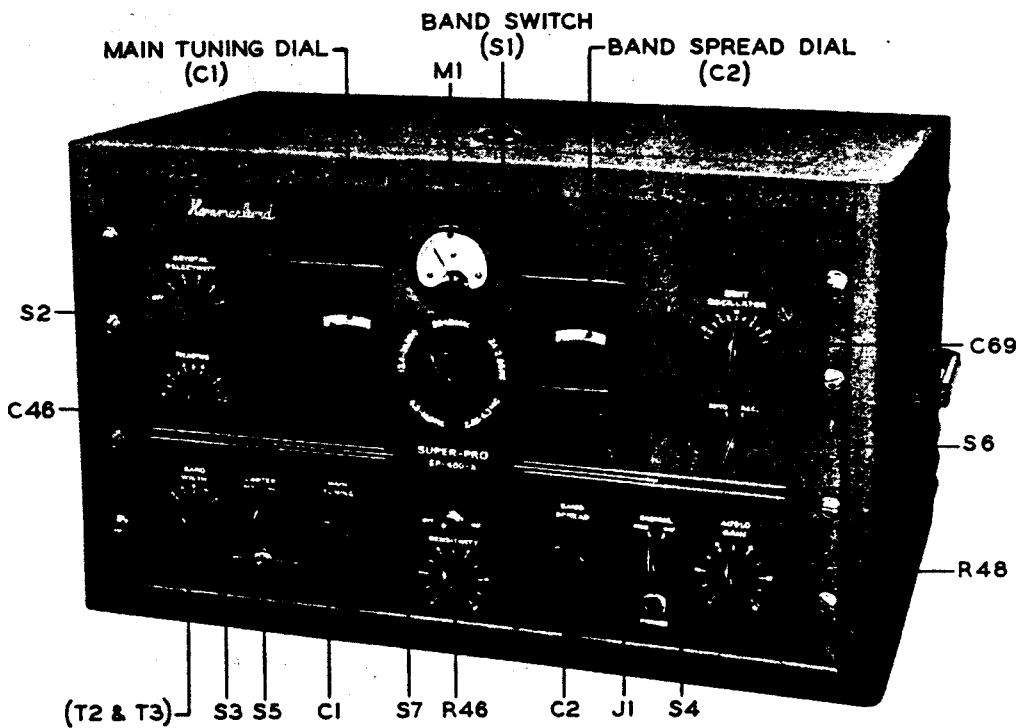
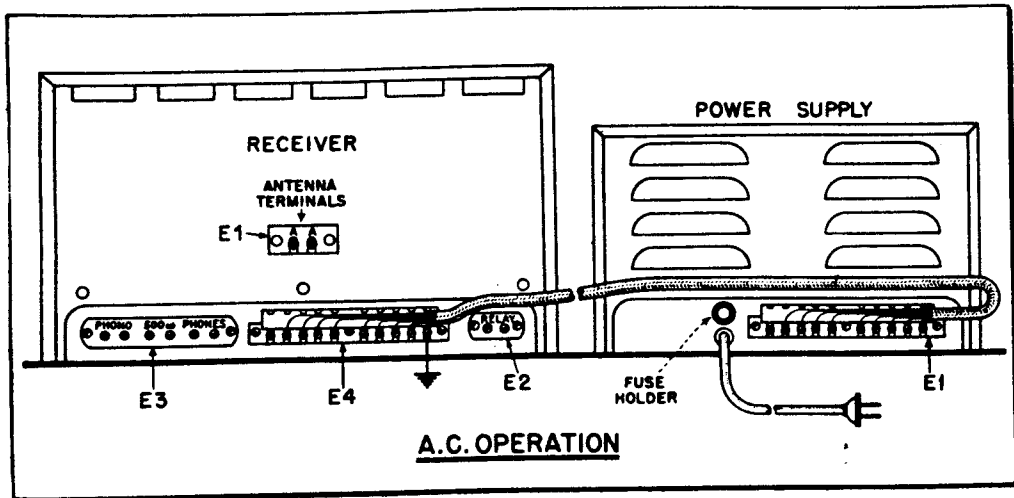

FIG. 2—Lay-out of controls referred to in text.
FIG. 3—Connections for power cable—A.C. operation.
panel (FIG. 2). Select the desired band by turning the BAND SWITCH knob right or left to the band indicated.
a. *Rating*—The total power output is approximately 8 watts. The total harmonic distortion of the output stage is less than 10% at this output and is, of course, less at lower levels. The Receiver has two output circuits with marked terminals along the rear of the chassis (FIG. 3).
(1) Remove the sheet-metal covers from terminal strip (E4, FIG. 3) on rear of Receiver and from terminal strip (E1, FIG. 3) on Power Supply. See that all ten screws on each strip are unscrewed at least three turns. Then attach one end of the connector cable to each terminal strip *exactly* as shown in FIG. 3 and tighten all screws securely. Make certain that each slotted spade lug on the cable strips makes contact with its respective screw terminal *only*, since a lug jammed between *two* screws could cause considerable trouble. Immediately
Connect a single-wire lead-in to the end of the antenna nearest the Receiver and try to have the lead-in wire leave the antenna approximately at right angles. Connect the lead-in to one of the "A" terminals (on terminal strip E1, FIG. 3) at the rear of the Receiver. Connect the other "A" terminal to a good ground, preferably not to the Receiver chassis. Run this ground lead to a water pipe or to a metal rod driven into the ground deep enough to reach moist earth. Keep the length of the ground lead as short as possible. Make the best possible electrical connections between the antenna and its lead-in and between the ground lead and "ground."
d. *Chassis Ground:* It is not usually necessary to ground the Receiver chassis, but this can be done by connecting the ground lead to the left-hand PHONO or to the left-hand PHONES terminal (located on terminal strip E3, FIG. 3). These two terminals are grounded to the inside of the chassis.
e. *Earphones:* Plug a headset into the PHONES jack (J1, FIG. 2), or connect it to screw terminals marked PHONES on rear of chassis. No matching transformer is necessary (see PAR. 20b).
f. *Loudspeaker:* The permanent magnet dynamic loudspeaker supplied with the Receiver has a transformer mounted on its housing. This transformer matches the voice coil of the loudspeaker to the 500-ohm output terminals (on terminal strip E3, FIG. 3) located at the rear of the chassis (marked 500 ohms). For loudspeaker operation,
h. Line Switch: Turn the OFF-ON switch (S7, FIG. 2) on the Receiver front panel to OFF and plug the power cord of the Power Supply into the a-c powerline.
a. *Radiophone Reception:* Set the front panel controls (FIG. 2) as follows:
(1) Throw OFF-ON power switch in center of panel to ON. This puts Receiver in operation.
(2) Adjust band switch (S1, FIG. 2) to a band which is likely to be very active. This will facilitate the process of getting familiar with the various adjustments. If interference is not serious, BAND WIDTH control can be adjusted to a wider band width (higher number), depending upon the degree of fidelity desired. In general, adjust this control to band width giving best tone with least interference.
(3) Do all tuning, with or without the meter with BAND WIDTH control set at 3. Other settings give wider bands, making exact tuning difficult. Make band width adjustments *after* signal is tuned properly.
(4) LIMITER-OFF-ON control turns noise limiter on and off. The noise limiter will be most valuable on the higher frequencies, where interference from automobile ignition system is most bothersome.
(1) On strong signals, do not turn SENSITIVITY control all the way on, because it will cause overloading. If the AUDIO GAIN control is set at about 7, it is possible to regulate volume by using only the sensitivity control.
(2) To turn on the beat oscillator, set SIGNAL-MOD-CW switch at CW. The BEAT OSCILLATOR control varies the pitch of the beat between oscillator and incoming signal. Use beat oscillator for code reception and for locating weak modulated signals.
(3) Fading signals can be improved by returning AVC-MANUAL switch to AVC.
d. *Receiver Silencing:* Receiver can be silenced by flipping the SEND-REC switch (S6, FIG. 2) to SEND. This operation opens the "B" supply to the R-F and 1st detector tubes (V1, V2 and V3). The Receiver then remains ready for instant service during transmission periods. Note also that instead of using the SEND-REC switch, a relay may be connected to the RELAY terminals (E2, FIG. 3) at rear of Receiver and silencing controlled by relay action, actuated, for example, by the associated transmitter. When using a relay for silencing, flip SEND-REC switch to SEND (open) and *leave* it there. While the
e. Phono Operation: Leads from a phonograph pickup may be connected to the PHONO terminals (on terminal strip E3, FIG. 3) at the rear of the Receiver. (Note that the left-hand terminal of this pair is grounded to chassis.) Use the SEND-REC switch (S6) as a “phono-radio” switch by flipping it to the SEND position, thus eliminating radio interference and making it unnecessary to hunt for a “dead spot” on the tuning dial.